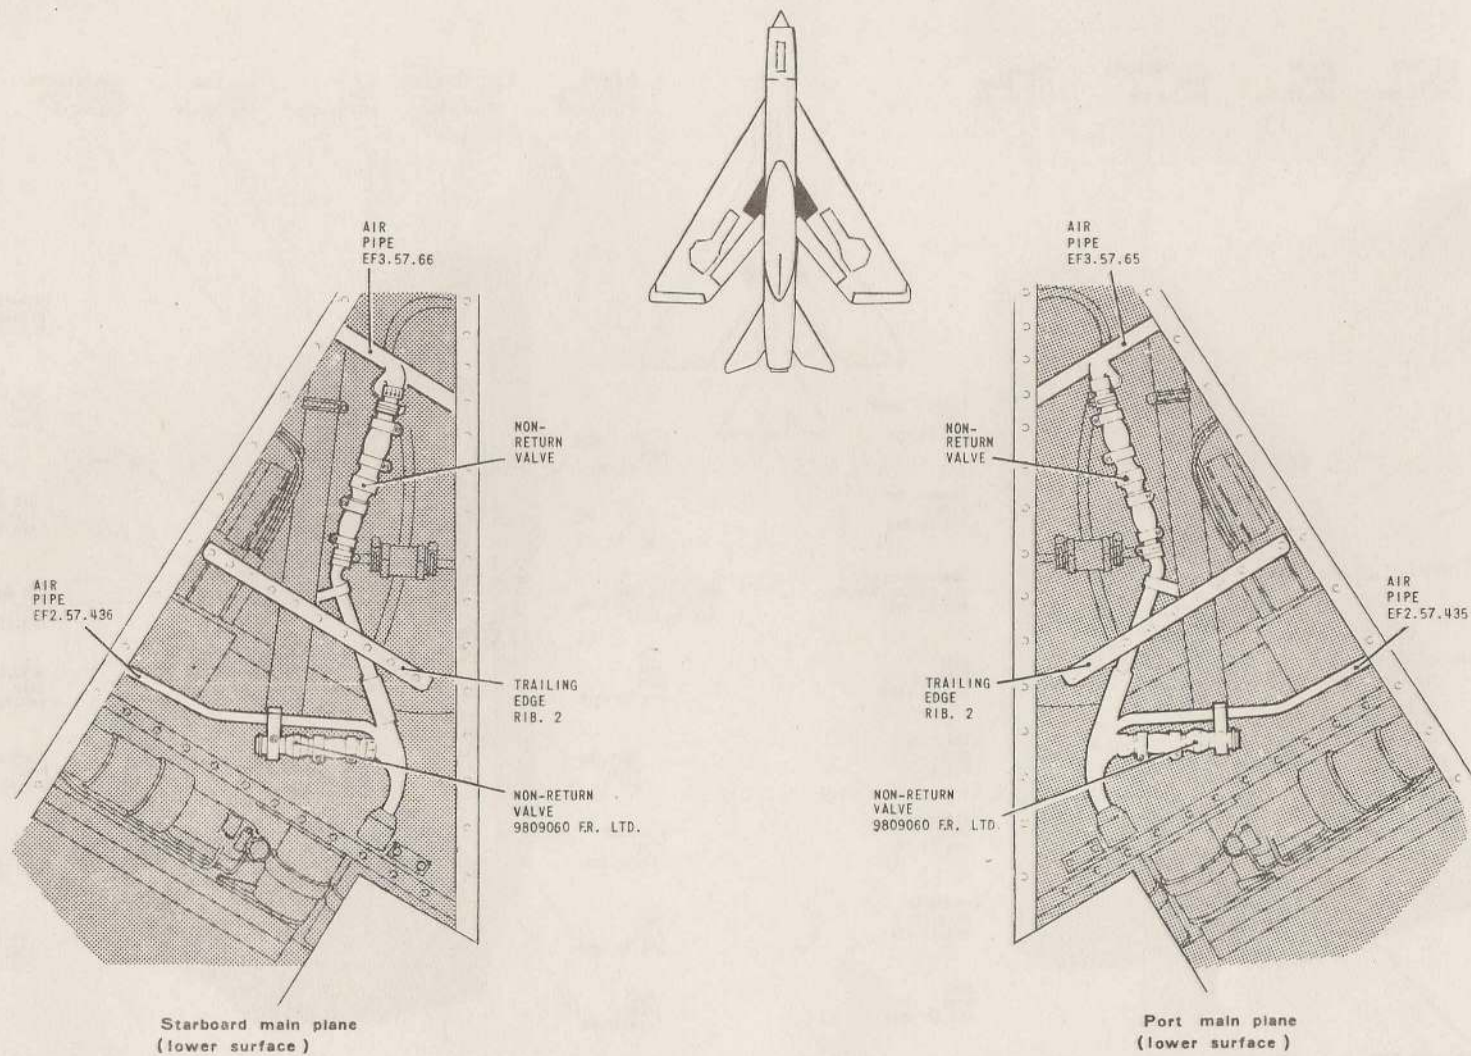

FIG. 7. EQUIPMENT IN MAIN-PLANE — LOWER SURFACE
- (10) Remove the leading-edge fuel tanks (*para.19*).
- (11) Disconnect the systems at the port and starboard leading edges.
- (12) Disconnect the systems at the port and starboard trailing edges (*fig.7 and 8*).